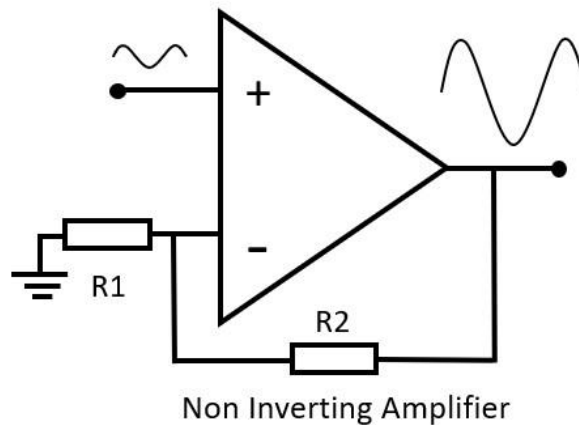

Figure 4: Inverting amplifier.
3. **The non-inverting amplifier** is used where the input and output are in phase. The gain of the amplifier is determined by the ratio of R_1 and R_2 (Figure 4).